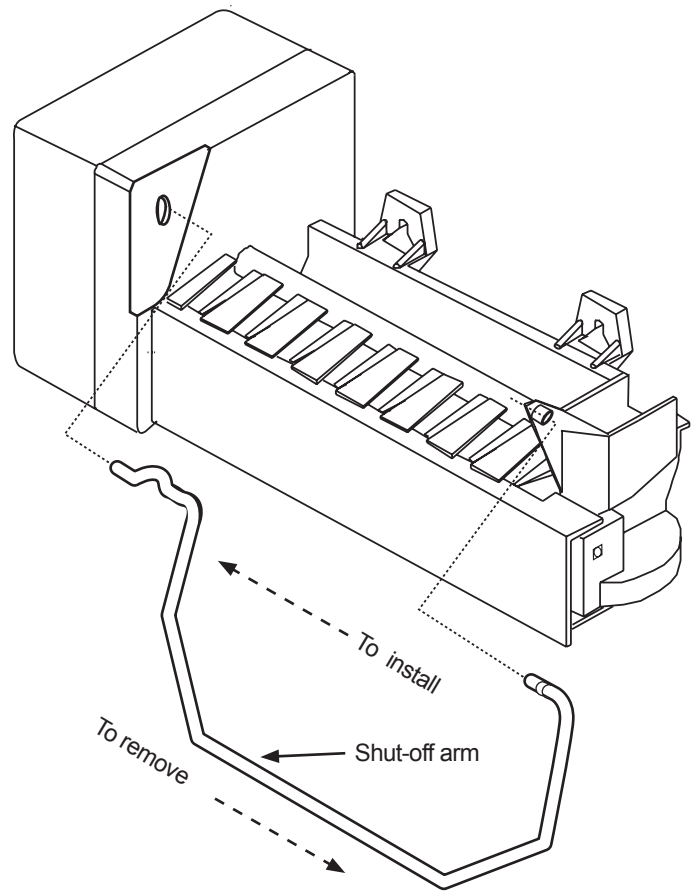

Figure 10-20. —Shut-off arm removal and installation.
9. Detach thermal fuse ① and ②.
10. Unplug harness plug from module ③ and ④.
11. Remove the shut-off arm. See Figure 10-20,